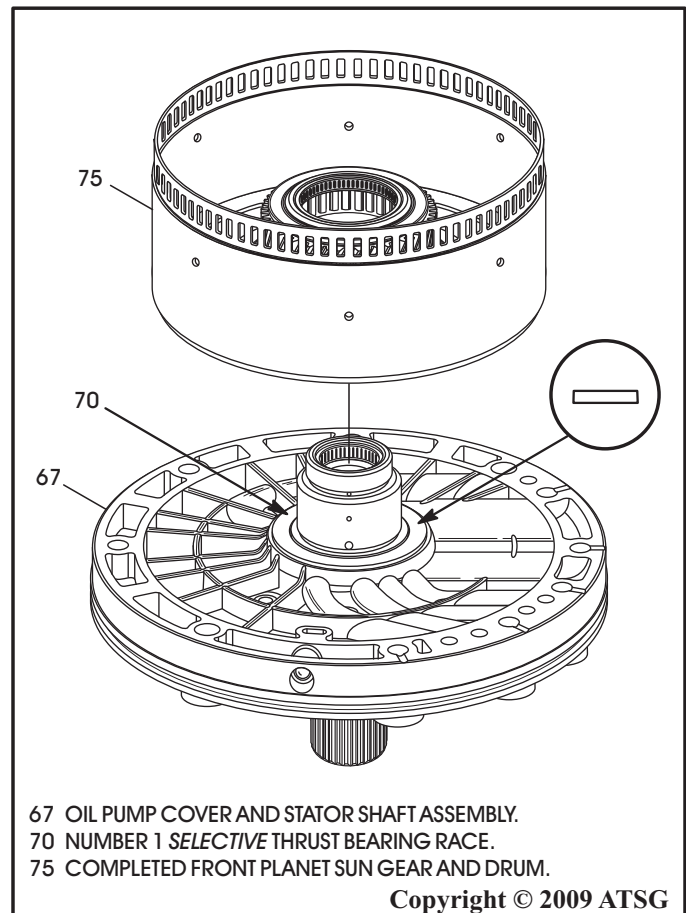

Figure 110
10. Install number 1 selective thrust bearing race on the completed oil pump assembly, as shown in Figure 110.